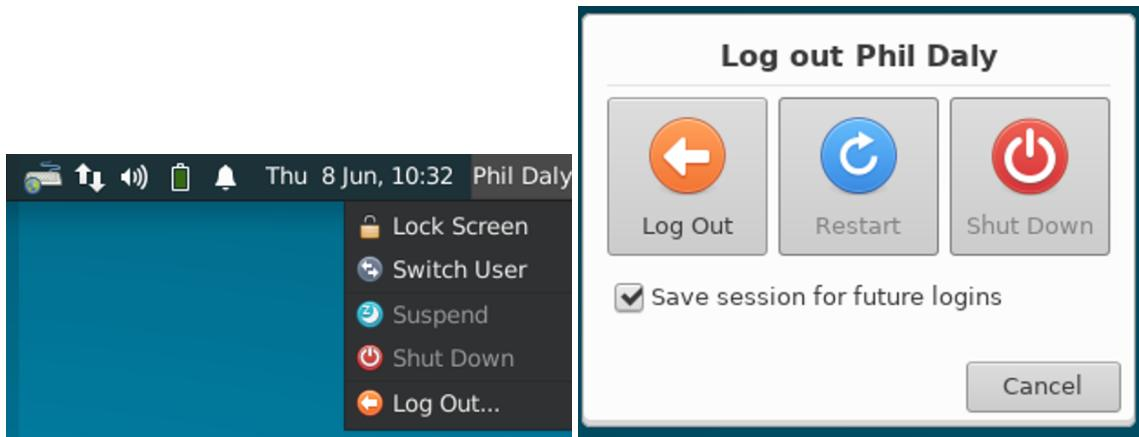

Figure 7: Shutting Down the Computers (bonsai , banzai ).
4. The pop-up window shown in Figure 7 should appear so click on ‘Shut Down’.